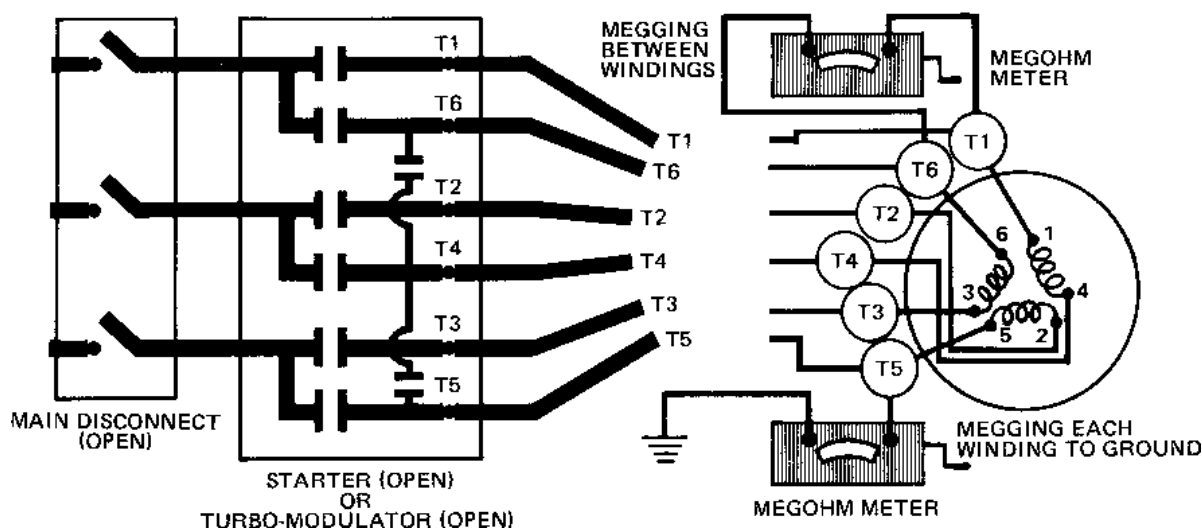
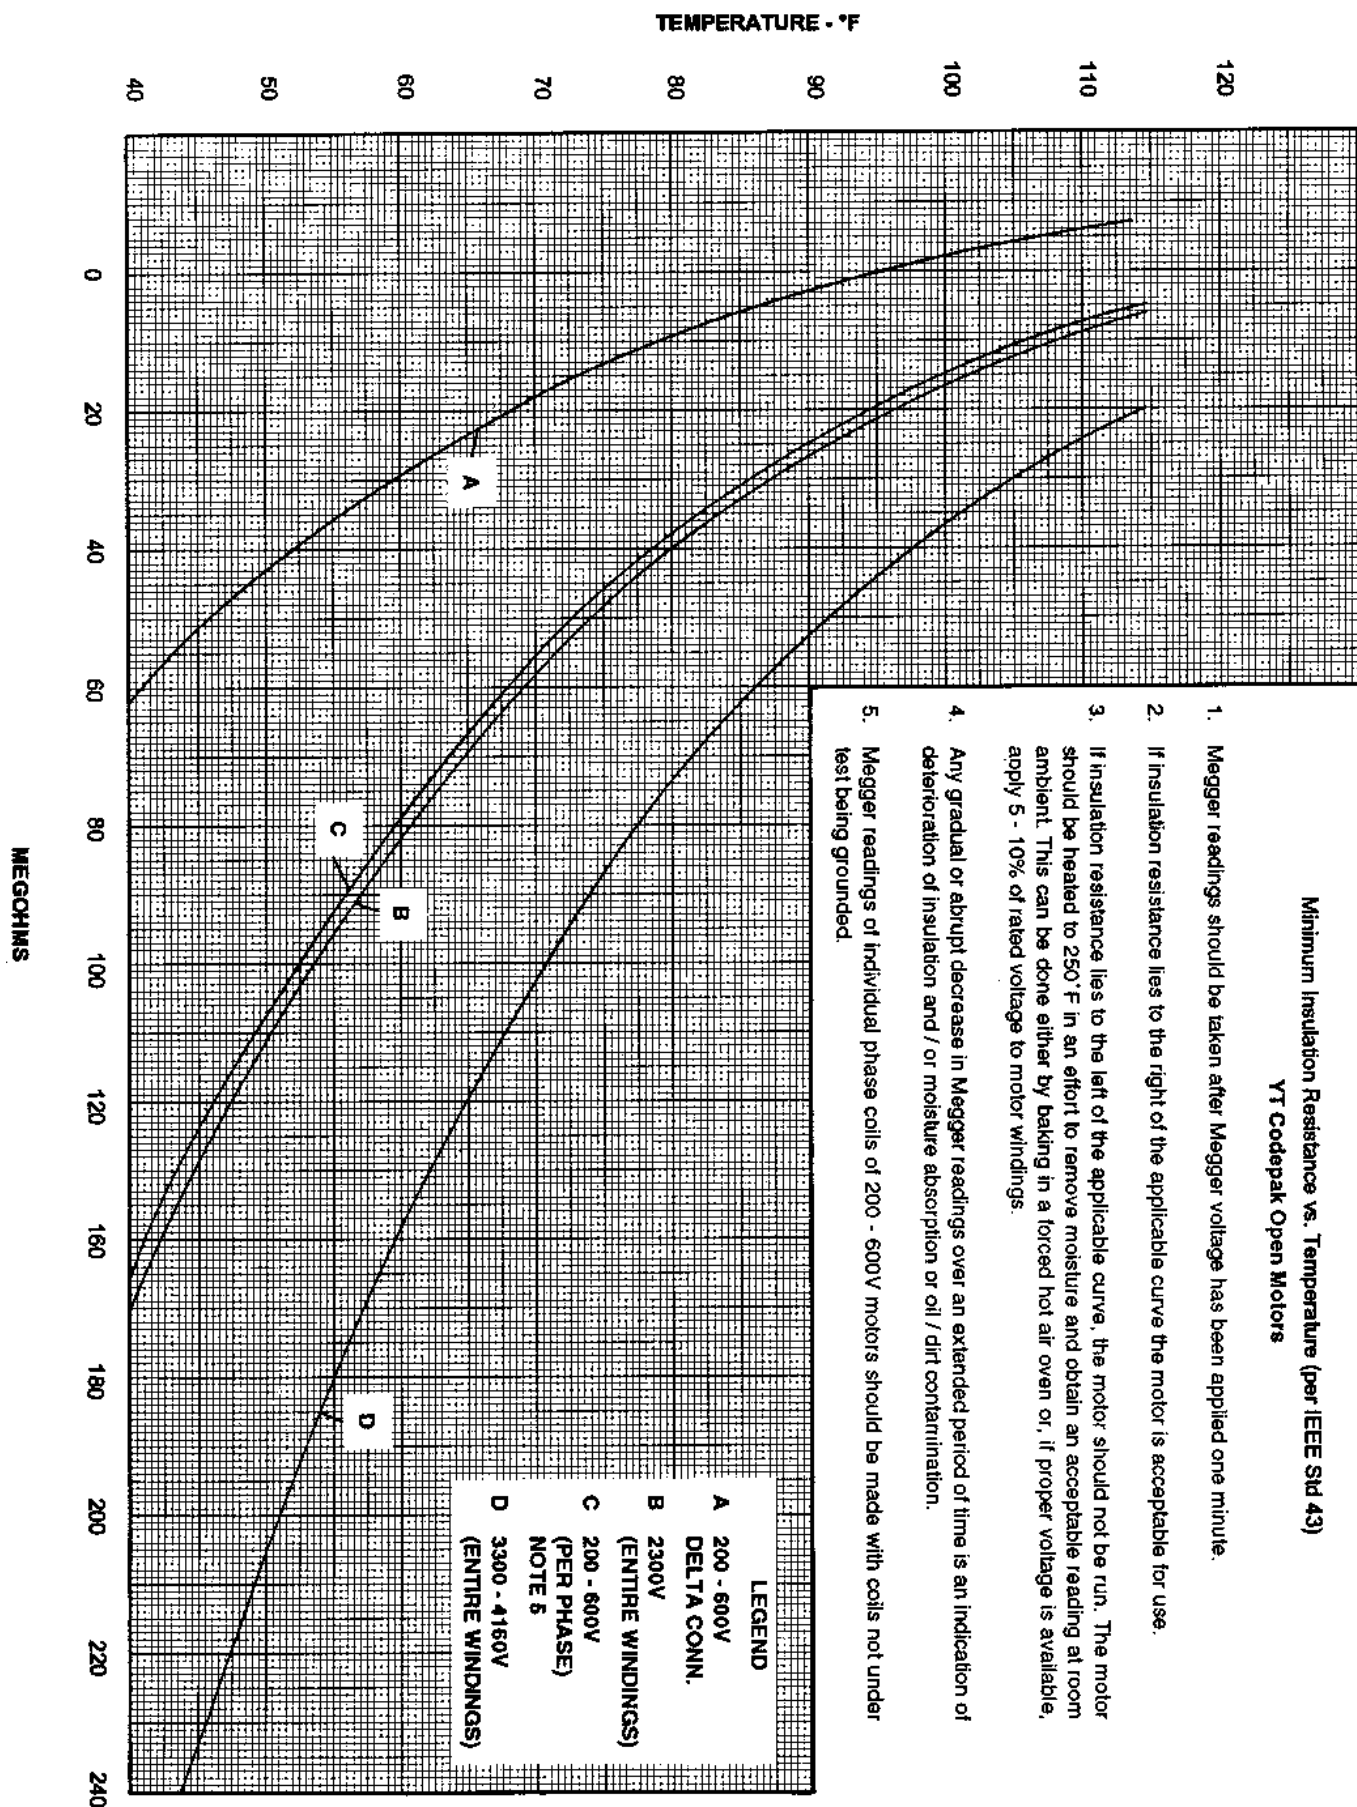

FIG. 30 - DIAGRAM, MEGGING MOTOR WINDINGS
FIG. 31 - MOTOR STATOR TEMPERATURE AND INSULATION RESISTANCES
1. Using a megohm meter (megger), meg between phases and each phase to ground (See Fig. 30); these readings are to be interpreted using the graph shown in Fig. 31.